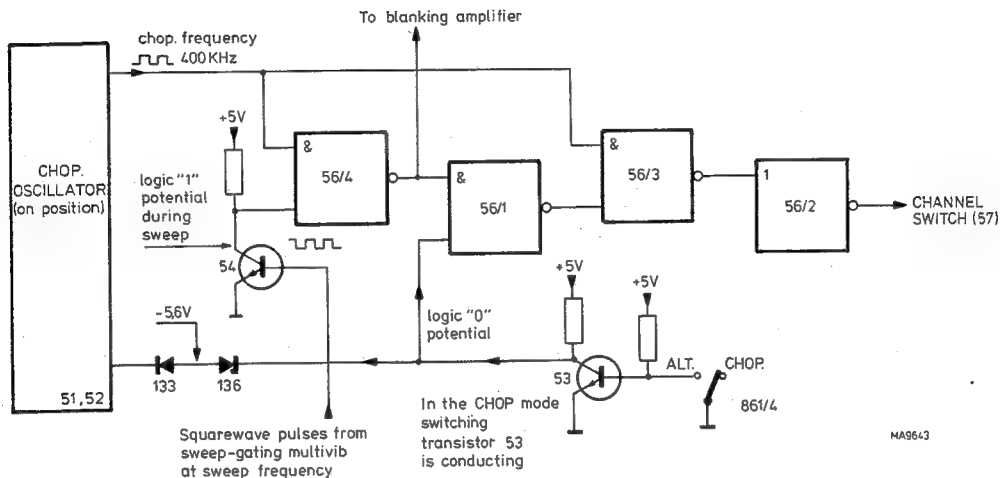

Fig. 3.6. Vertical channel switching – CHOP mode
- The CHOP pushbutton 861/4 disconnects the earth from the base of switching transistor 53, which then conducts. The collector voltage drops from 5 V to 0 V and, consequently, because of the zener diode voltage, the anode of diode 133 drops from  $-0.6$  V to  $-5.6$  V and switches on the CHOP oscillator 51, 52. The square wave voltage at the output of the CHOP oscillator (collector of transistor 52) operates the NAND gates to produce 400 kHz clock pulses for the channel switching flip-flop 57 (see Fig. 3.6.).